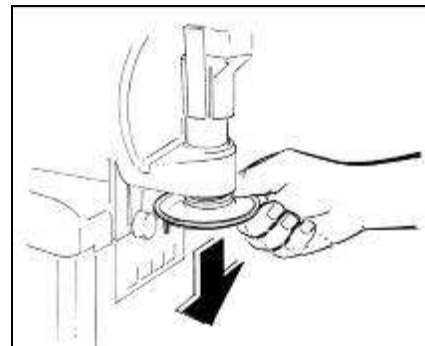

Fig. 15
- Remove the accessory to give a "star" peculiar shape to the dispensed product (fig.15).